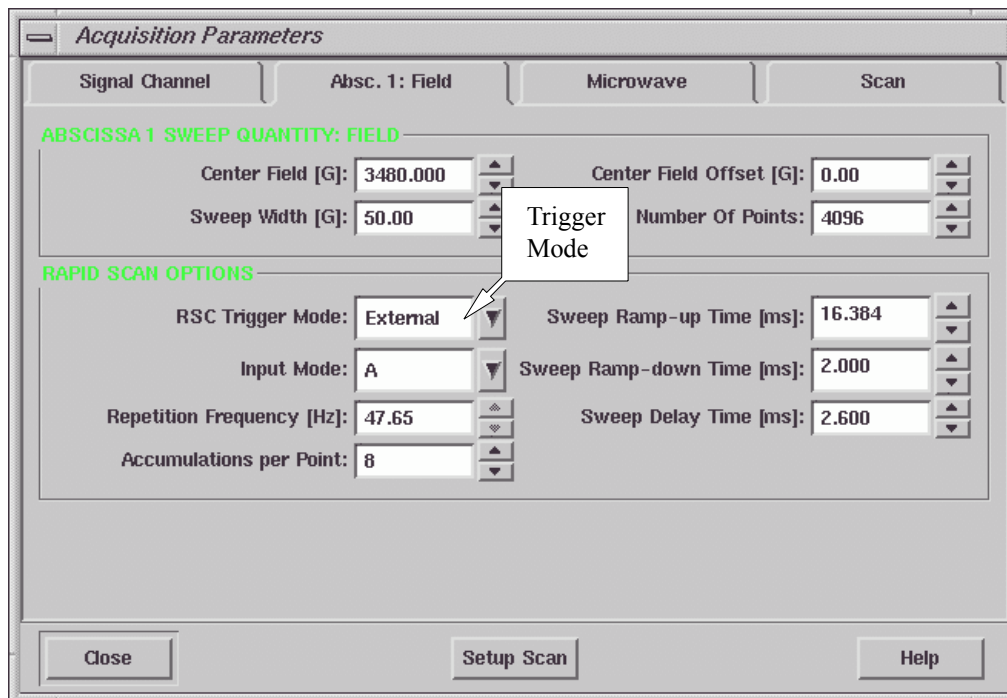

Figure 14-15 Enabling the RSC Trigger Mode.
2. **Enable the External Trigger for the RSC.** Open the Parameter dialog box and click the Absc. 1: Field folder. Select External from the RSC Trigger Mode drop-down list. (See Figure 14-15)